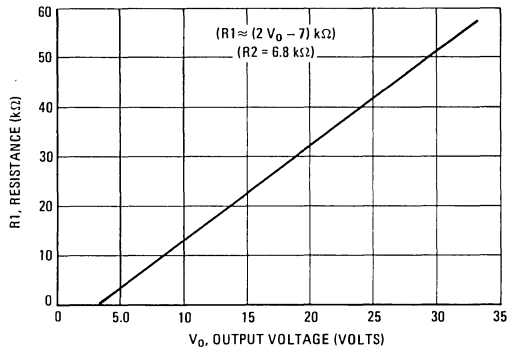

FIGURE 11 – R1 and R2 versus  $V_O$
- b) For  $2.5 \leq V_O \leq 3.5$  Vdc – Output voltage is set by resistors R1 and R2 (see Figure 5). Resistors R1 and R2 can be determined from the graph of Figure 11 or from the equations: